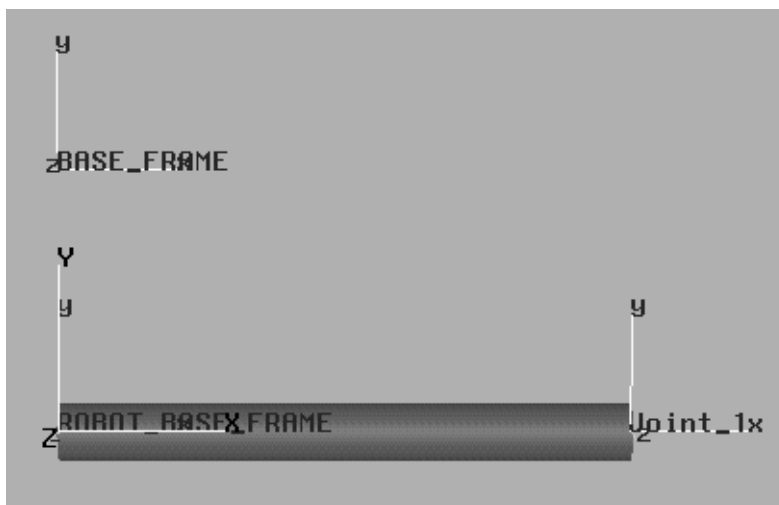

Figure 7: empty.sim with Geo_1.mpo
6. Move Geo_1.mpo to its final position (Figure 7)
- Use **CONFIRM** to confirm the final position of Geo_1.mpo (Figure 7)